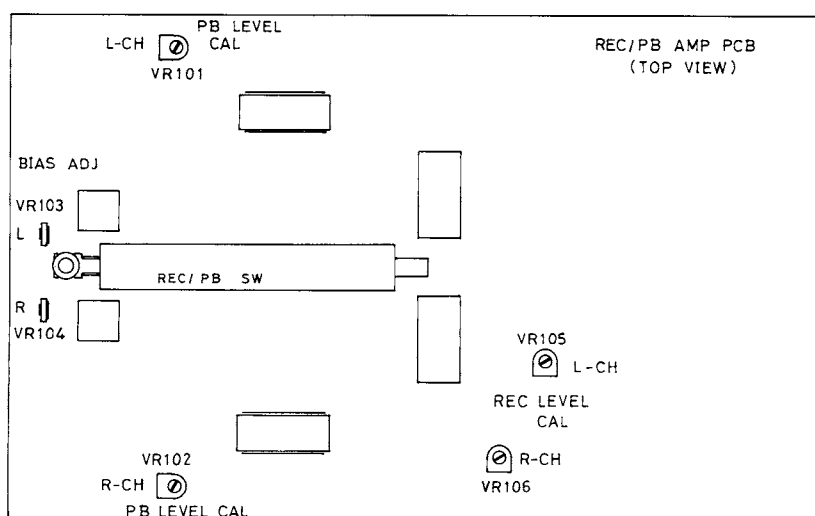

Fig. 2
- Adjust potentiometer VR103 on the main p-c board (Fig. 2), by recording and playing back, until outputs for 10,000Hz and 400Hz signals reach the same level.
2. Play back test tape LCT-7001 (or equivalent), and adjust potentiometer VR101 (VR102 for R-ch) on the main p-c board (Fig. 2) so that the AC voltmeter reads 580mV.
4. If recording and playback levels differ from each other, repeat step 3 until the two levels become almost equal, by adjusting potentiometer VR105 (VR-106 for R-ch) on the main p-c board while recording (Fig. 2).